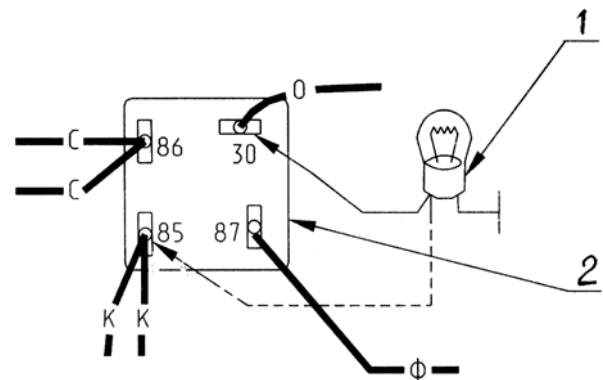

Fig. 10. Checking the integrity of the circuits of the starter solenoid switch 738.3747-30:
- Check the integrity of the circuits and application of the voltage to the terminals of the starter solenoid switch (K7) (Fig. 10):